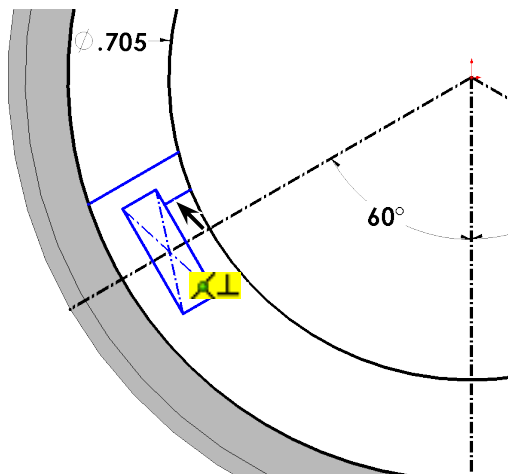

Fig. 21
Step 20. Click **Line**  (L) on the Sketch toolbar.
Step 21. Sketch line perpendicular to long line of rectangle and circle. To sketch line, click circle to start line on circle and click long line of rectangle then use the auto perpendicular relation , **Fig. 21**.
Step 22. Click **Smart Dimension**  (S) on the Sketch toolbar.